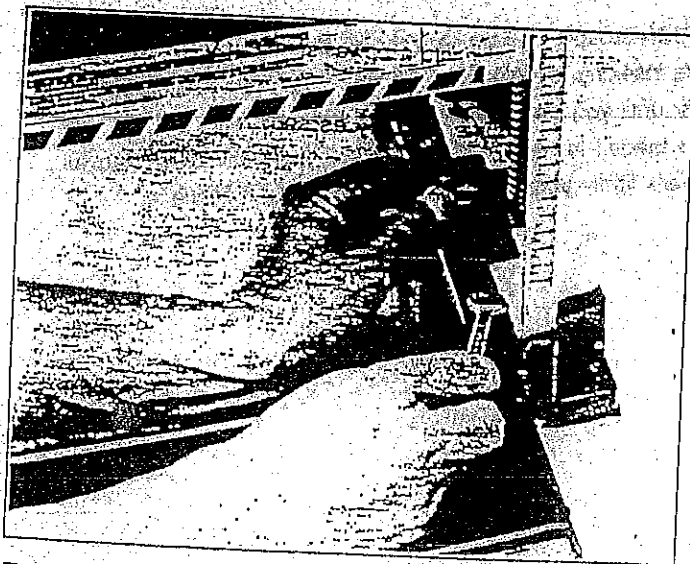

Figure 3
1. Loosen the securing nut on each side of the planer base with the open-end wrench supplied (Figure 3).